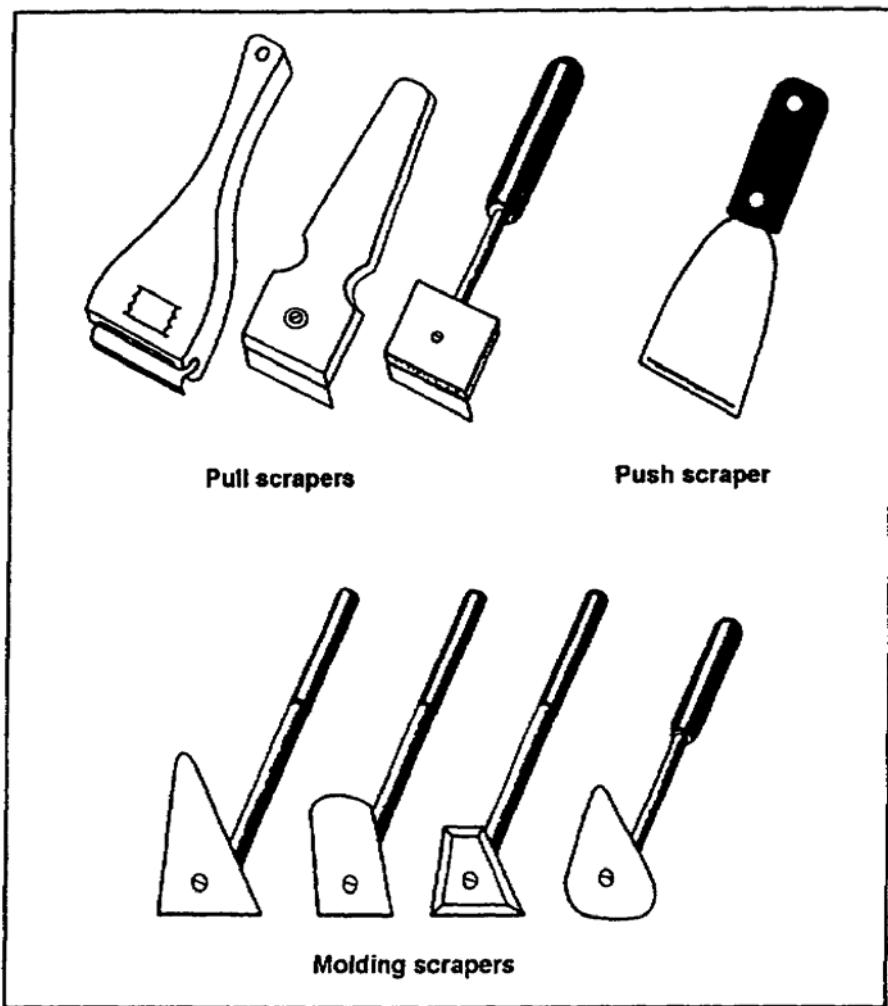

Figure 3-2. Pull, push, and molding scrapers
c. Scrapers. Paint scrapers are grouped as pull, push, or molding (Figure 3-2). Scrapers will vary based on their intended uses; for example, one scraper type is used to remove deteriorated paint from the surface, and another is used to remove plane and mill marks from wood surfaces (Figure 3-3). Scrapers made of flexible steel must be kept sharp to do good work. Figure 3-4, page 3-4, demonstrates how hand-scraper edges are sharpened. The cutting edges of a cabinet scraper (Figure 3-5, page 3-5) and a scraper plane (Figure 3-6, page 3-5) are sharpened similarly to the hand scraper. You should never toss scrapers into a toolbox with other tools as this will nick the sharp edges and make it necessary to resharpen them.